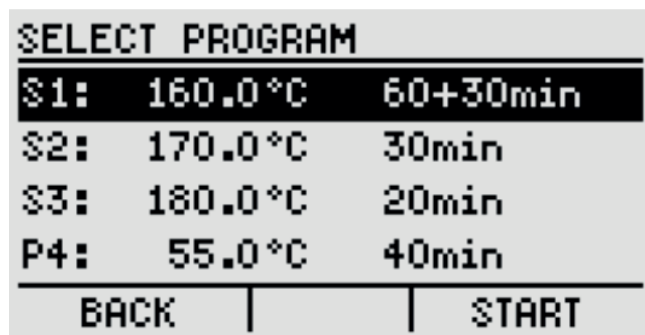
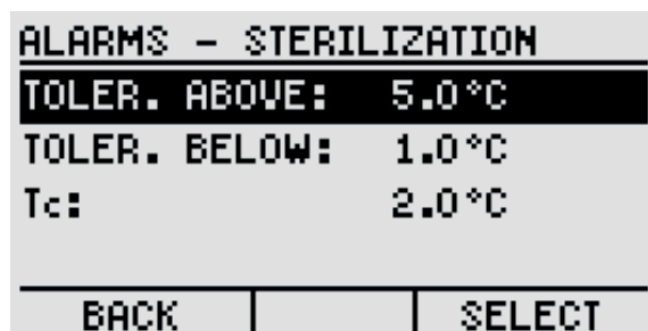

Fig. 41
Fig. 48
- The parameter Tc (Fig. 48) is important for correcting the sterilization temperature (see Fig. 25). The preheating and exposure temperatures for programs S1, S2, S3 can be shifted by a defined value (0 to 10°C) above the set temperature. In this way, reliable heating of the inserted material can be achieved. The default (factory preset) correction is +2°C. For example, with program S1 (Fig. 41), with a correction of +2°C, the temperature of the preheating phase and the exposure would be increased to 162°C.